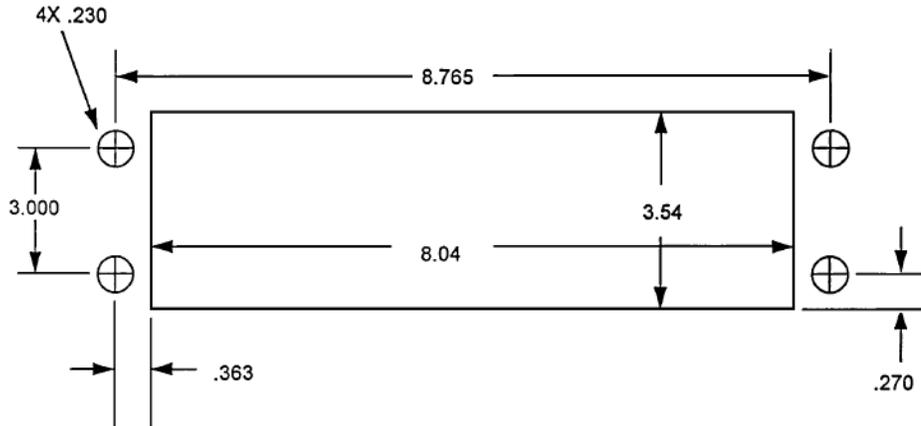

Figure 1-3 Panel Cutout Dimensions
- Mount the unit using the desired rack-mounting kit (Figure 1-3).